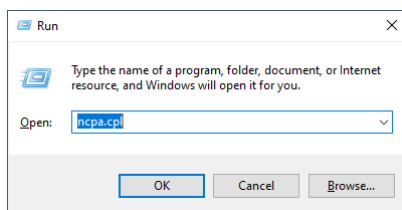

Fig. 9 Windows run command dialog box
- Type *ncpa.cpl* and press Enter to open the Network Connections tool. See Fig. 9 for reference.